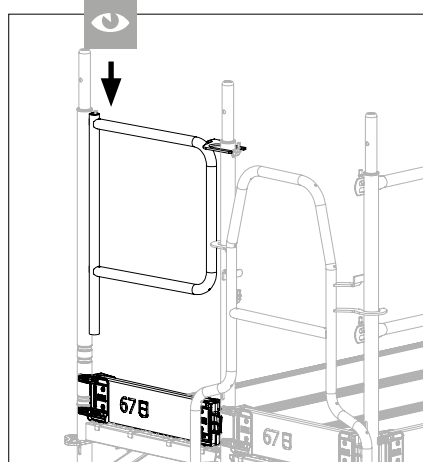

Fig. A3.15
- End Guardrail EPF is now installed. (Fig. A3.15)